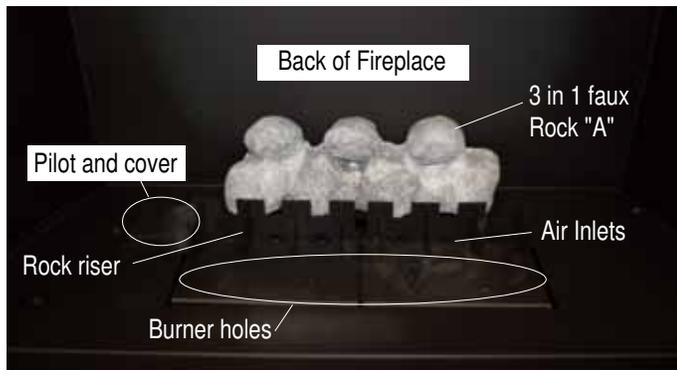

Figure 31. Placement 3 in 1 rear faux ceramic rock "A".
2. Install Rear faux "A" ceramic 3 in 1 Rock as shown in Figure 31.